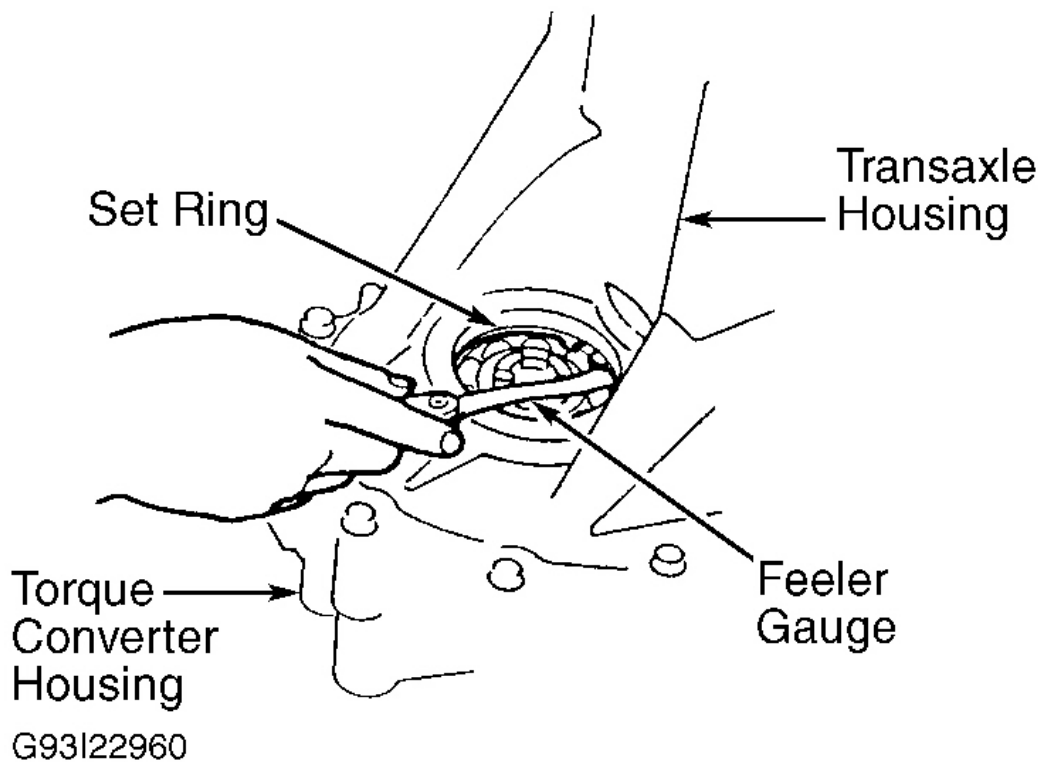

Fig. 36: Checking Differential Bearing Side Clearance
5. Using feeler gauge, measure differential bearing side clearance between snap ring and bearing on transaxle housing. See **Fig. 36** . Replace snap ring if differential bearing side clearance exceeds .006" (.15 mm). Different thickness snap rings are available. See **SNAP RING SPECIFICATIONS** table. Recheck